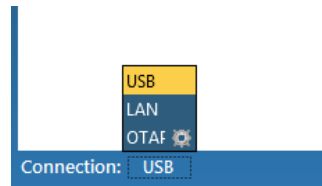

Figure 1: Selecting the USB connection for programming
1. Launch TRBOnet Swift CPS. In the main window, select **USB** as an interface for device programming at the bottom (Figure 1). Connect the programming cable to the micro-USB port of Swift A200 and to a USB port of your computer.
2. Launch TRBOnet Swift CPS on your computer. In the main window, select **USB** as the programming interface (Figure 1, page 9).